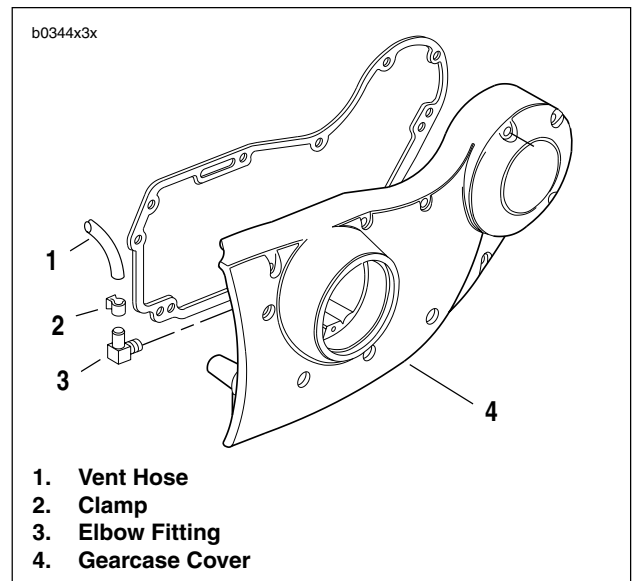

Figure 3-49. Vent Hose Connection (Typical)
After diverging from the feed and return hoses, the vent hose is routed beneath the starter. It continues on to the right side of the motorcycle. See Figure 3-49. Here the vent hose (1) connects to an elbow fitting (3) on the gearcase cover (4).